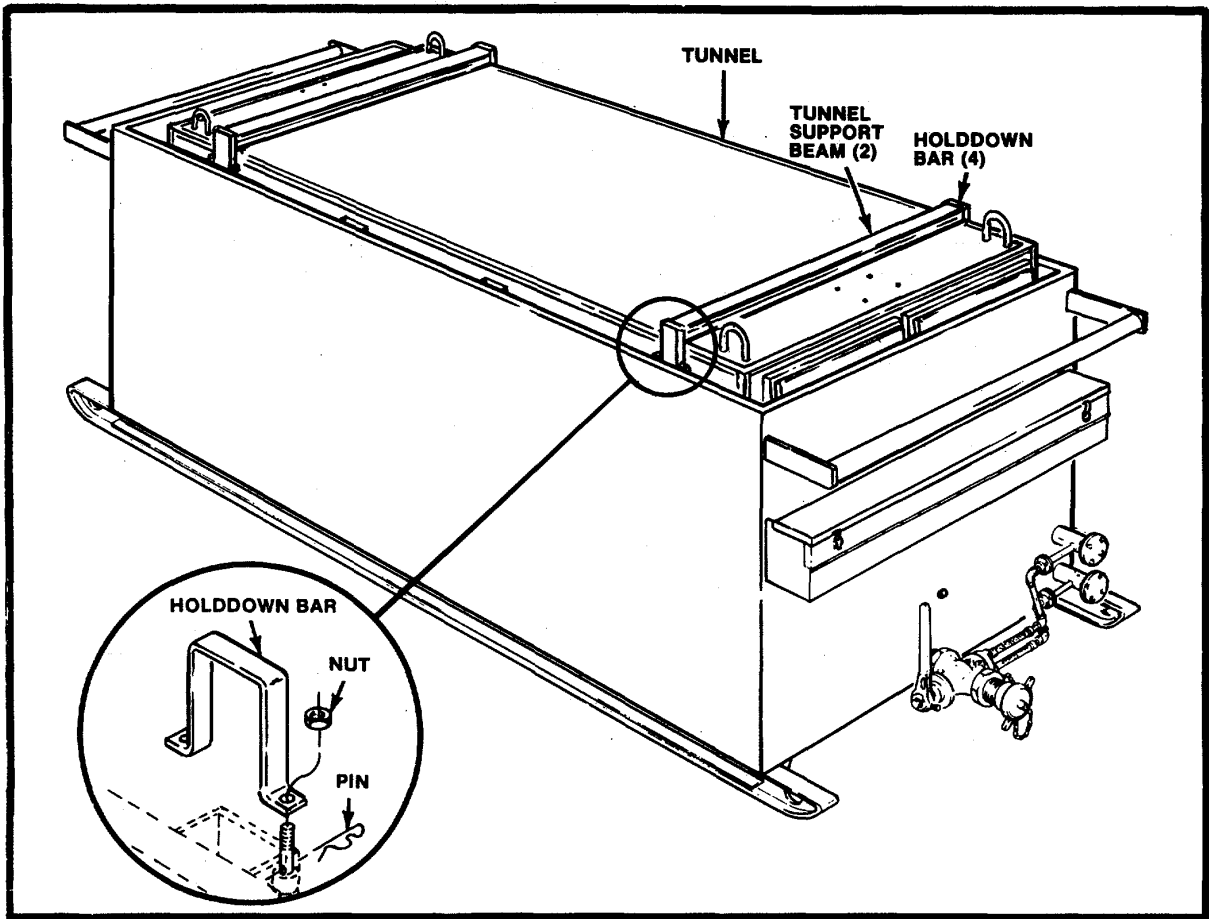

Figure 2-1. Asphalt Melter in shipping configuration.
d. Remove the four holddown bars, securing the tunnel support beams to the storage tank (Figure 2-1). Lift out the two tunnel support beams.